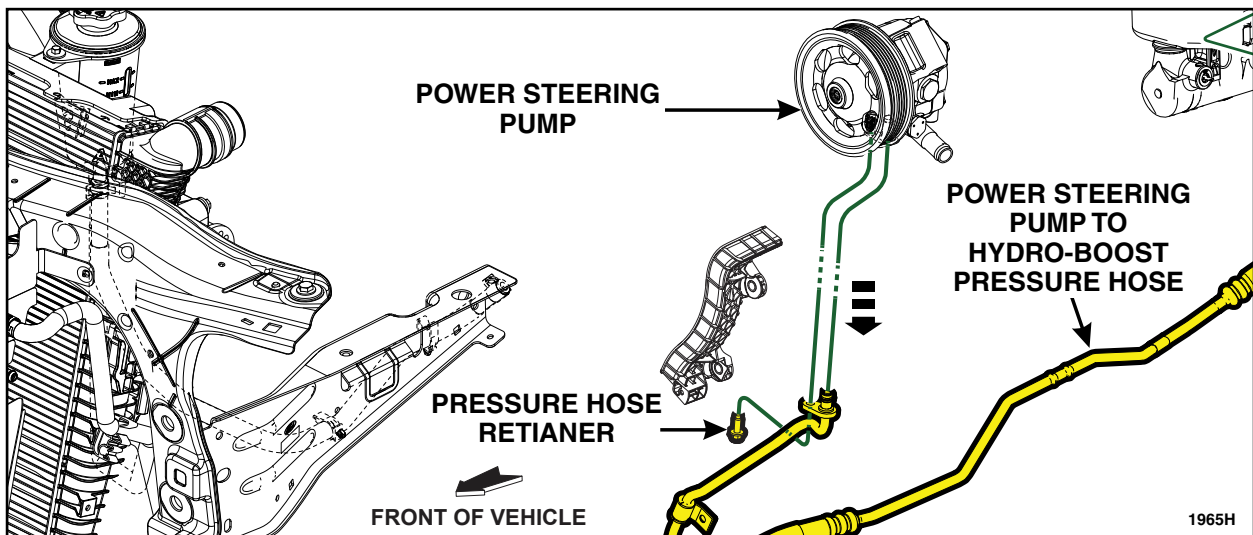

FIGURE 9
2. Remove the retainer and disconnect the power steering pump to Hydro-Boost pressure hose at the power steering pump. See Figure 9.